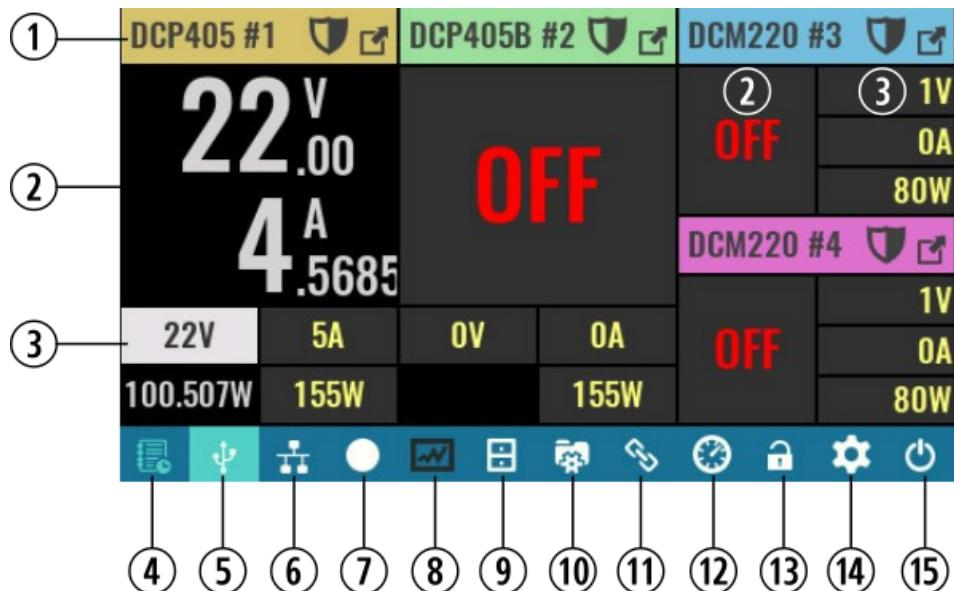

Fig. 8: Home page overview
Fig. 8 shows home page of the EEZ BB3 loaded with three different power module (see Fig. 6) using the default view (*numeric*) for presenting output states, and measured and set values. This module configuration (i.e. DCP405, DCP405B and DCM220) will be used as an example throughout this manual.
- ③ **Channel supplemental display section** is used for set output voltage, current and power. Additionally is used for displaying measured output power together with related units of measurement (mW or W).
- ④ **Event view:** View the event log. The icon color will change color if unread warning or error messages have been added to the log.
- ⑤ **USB activity** indicator and shortcut to serial communication settings. The icon is not visible if USB/serial communication is disabled and its background becomes highlighted if USB/serial communication is established.
- ⑥ **LAN activity** indicator and shortcut to the Ethernet communication settings. The icon is not visible if Ethernet communication is disabled and its background becomes highlighted if LAN communication is established.
- ⑦ **Recording / Stop:** Data logger control. Use to start data logging or to stop logging before a defined end.
- ⑧ **Data log view:** if logging is in progress it displays real time data. When logging is completed or stopped, it will display data from the last log.
- ⑨ **File manager:** Allows access to data on an SD card such as user profiles, program lists, logged data or screenshots. Logged data and screenshots can be uploaded to EEZ Studio with one click.
- ⑩ **User profiles:** 10 different profiles (with auto-recall function) are available for saving and recalling module parameters.
- ⑪ **Tracking and coupling settings:** tracking allows simultaneous programming of two or more module's output channels. Coupling can be used to safely connect (under firmware control) two or more module's outputs in series, parallel, as “split rail” (i.e. series with common output) or with Vout- tied together. No additional external connection wiring is required, and in case of coupling in series the output voltage range is doubled (e.g. to 80 V). Similarly, when parallel coupling is performed the output current range is doubled (e.g. to 10 A).
- ⑫ **Display view selection:** toggle between five different presentations of output module parameters (default is numeric view – as shown on Fig. 8).
- ⑬ **Display lock/unlock:** when locked all local user interaction via touch-screen display will be disabled until the same option is selected again. Unlocking is not possible without entering valid system password (the system password is *not* defined by default).
- ⑭ **System settings:** use it to access system-wide protection settings, display, sound, trigger, digital I/O, date & time, Encoder and user switch, AUX temperature & fan control, Ethernet, Serial/USB and channels calibration
- ⑮ **Power / Reset control:** allows access to standby, “soft” reset (see also \\*RST), “hard” reset (equivalent to power up reset) and option to turn off display